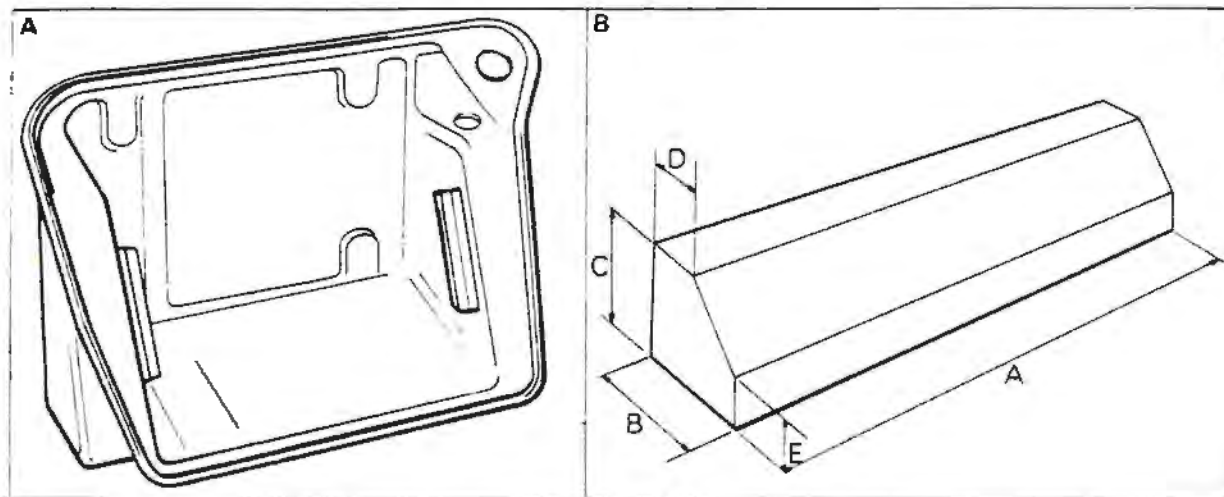

Figure 1 - Wooden spacer blocks in battery box
- 3 Secure the two locally manufactured wooden spacing blocks (see Fig. 1 inset B) to the sides of the battery box as shown in Figure 1 inset A, with a suitable impact adhesive.